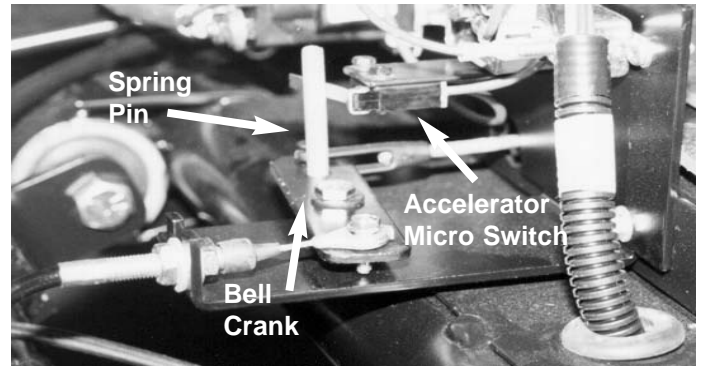

Figure 9 - Accelerator Linkage and Micro Switch
**Note:** Refer to Figure 9 and 10.